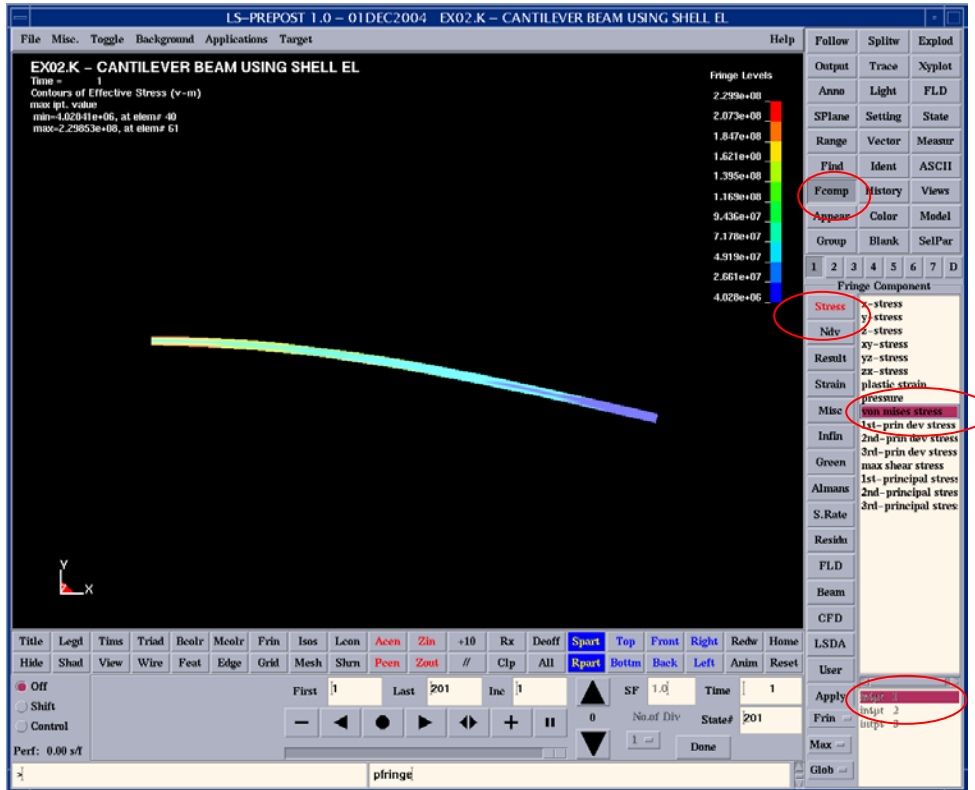

Figure 8: Displaying Von Mises stress from Fringe components.
6. Click on **Fcomp** in the *Main Button Menu* (Figure 8). Select the fringe component you which to see and the results will be updated in the *Graphics Area*. For example, click on **Stress** and then choose **von mises stress**, the *Graphics Area* now displays the Von Mises Stress as the contour plot over the beam at the selected time step. Try other fringes to familiarize yourself with the GUI of LSPrePost.